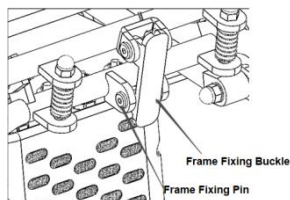
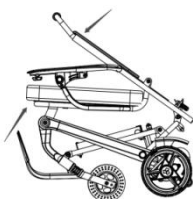

Figure12
Figure13
► Folding steps: (See Figure12, Figure13, Figure14)